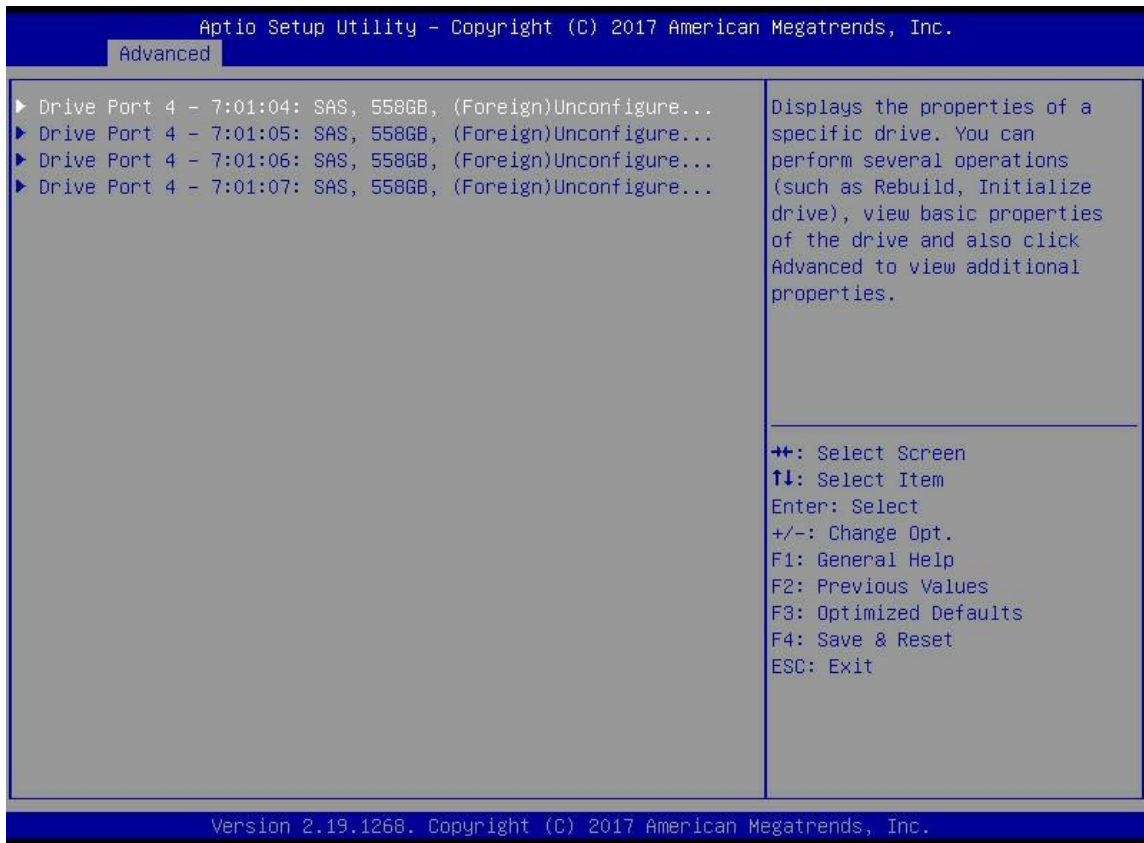

Figure 6-3
- b) Enter the interface shown in Figure 6-3, select the disk to be configured, and press enter.